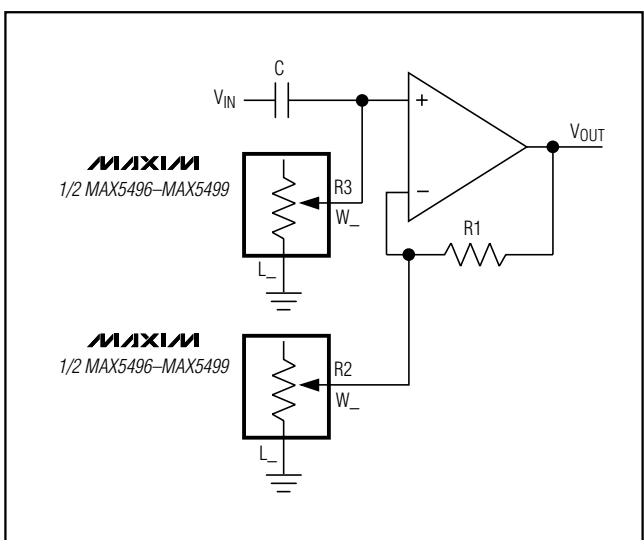

Figure 14. Programmable Filter
Figure 14 shows the configuration for a 1st-order programmable filter. The gain of the filter is adjusted by R2, and the cutoff frequency is adjusted by R3. Use the following equations to calculate the gain (G) and the 3dB cutoff frequency (fc).